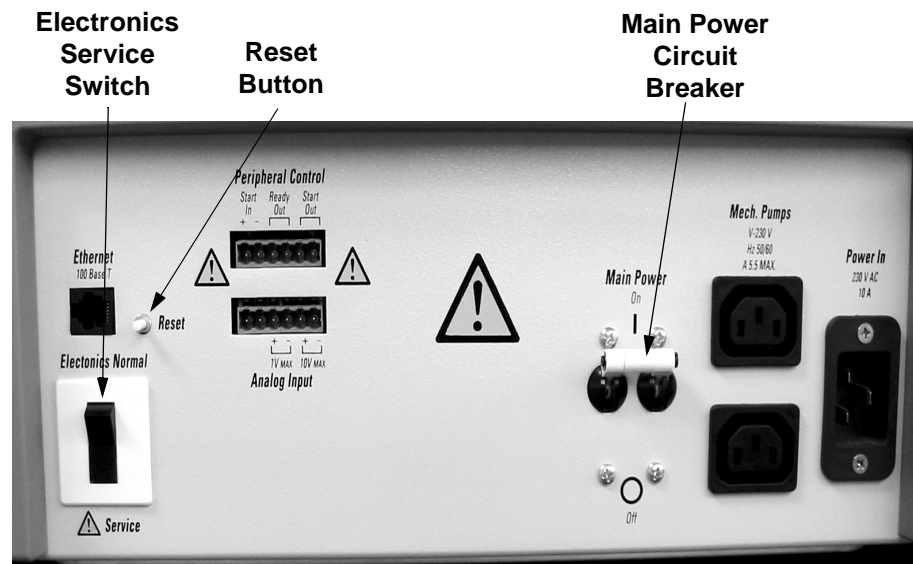

Figure 5-1. Power panel, showing the Reset button electronics service switch, and the main power circuit breaker switch
If you need to turn off the MS detector in an emergency, place the main power circuit breaker switch, located on the power panel on the right side panel of the MS detector (see Figure 5-1), in the Off (O) position. This turns off all power to the MS detector, including the vacuum pumps. Although removing power abruptly will not harm any component within the system, this is not the recommended shutdown procedure to follow. Refer to the **Shutting Down the System Completely** topic, on page 5-4, for the recommended procedure.
3. Place the electronics service switch, located on the power panel (see Figure 5-1 on page 5-2), in the Service position. Power to the non-vacuum system electronics is turned off when you place the electronics service switch in the Service position.
4. Place the main power circuit breaker switch, located on the power panel (Figure 5-1) in the Off (O) position. When you place the main power circuit breaker switch in the Off (O) position, the following occurs:
If communication between the MS detector and data system computer is lost, it may be necessary to reset the MS detector using the Reset button on the power panel. When you press the Reset button (for 3 s), an interrupt in the embedded computer is created. This causes the embedded computer to restart in a known (default) state. See Figure 5-1 on page 5-2 for the location of the Reset button.